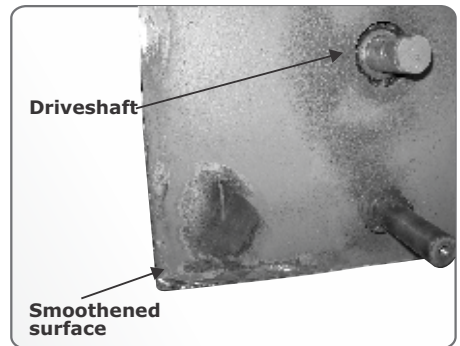

FIGURE 21.
5. In order to provide adequate space for the **RSO** to be installed, some or all of the old fittings or support struts may have to be grinded off. Ensure that the surface is completely smooth and that there are no uneven areas or protrusions where the motor is to be installed as shown in Figure 21.